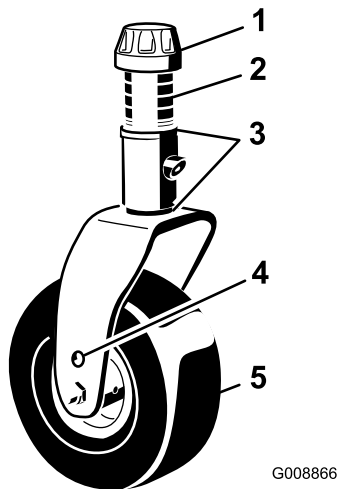

Figure 33
3. Adjust the shims (3 mm or 1/8 inch) on the front caster fork(s) to match the height-of-cut decal (Figure 33); refer to Adjusting the Height of Cut (page 30).